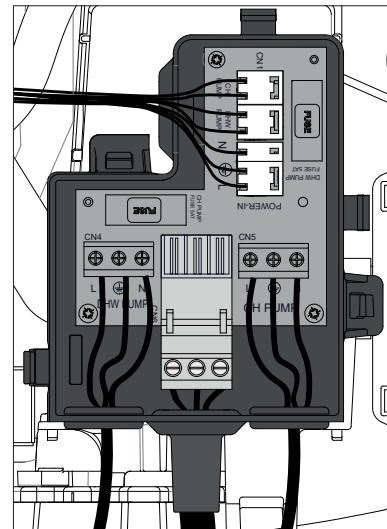

Figure 48 - 120V Connections for DHW and CH Circulators
6. Connect the cable on the connector CN5 (CH pump) and CN4 (DHW pump). See Figure 48 and Electrical Wiring Diagram, Figure 53.